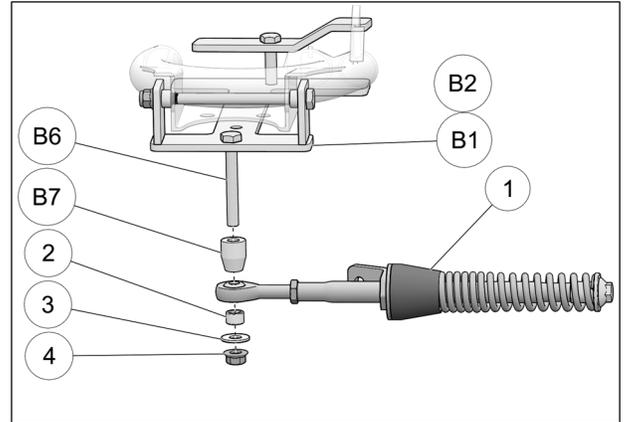

Fig. 12
10. Attach stabilizing rod (1) to anchor bracket (B1-B2), using bolt (B6), long spacer bushing (B7), short spacer bushing (2), washer (3), and nut (4). Torque to $70 \text{ N}\cdot\text{m}$ [$52 \text{ lb}\cdot\text{ft}$]. See Fig. 12